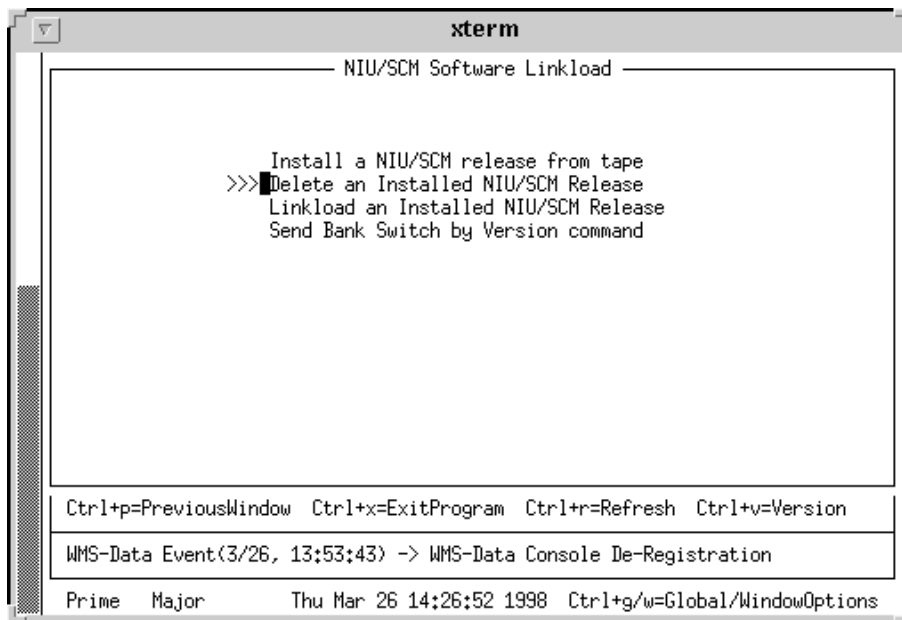

Figure 6-3: NIU/SCM Software Linkload Screen—Delete an Installed NIU/SCM Release
1. From the NIU/SCM Software Linkload screen, use the <tab> to position the cursor to the left of the listing Delete an Installed NIU/SCM Release and press: <Return> (see Figure 6-3).